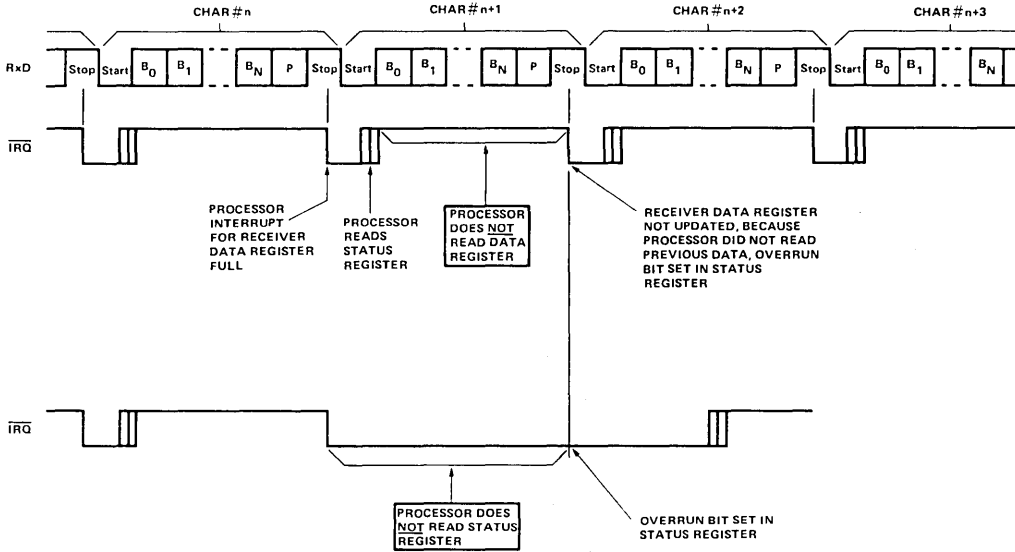

Figure 4-5. EFFECT OF OVERRUN ON RECEIVER
4.1.5 Effect of Overrun on Receiver (Figure 4-5)